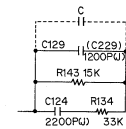

Fig. 6.2.4 Main P.C.B.
- Feed in 10 kHz and 400 Hz (-20 dB) then record and play it back. Check the difference of the levels between 10 kHz and 400 Hz, and mount an additional capacitor in parallel with the C129 (C229) from the dip side of the printed circuit board depending upon the difference of the levels against 400 Hz. See Fig. 6.2.4.